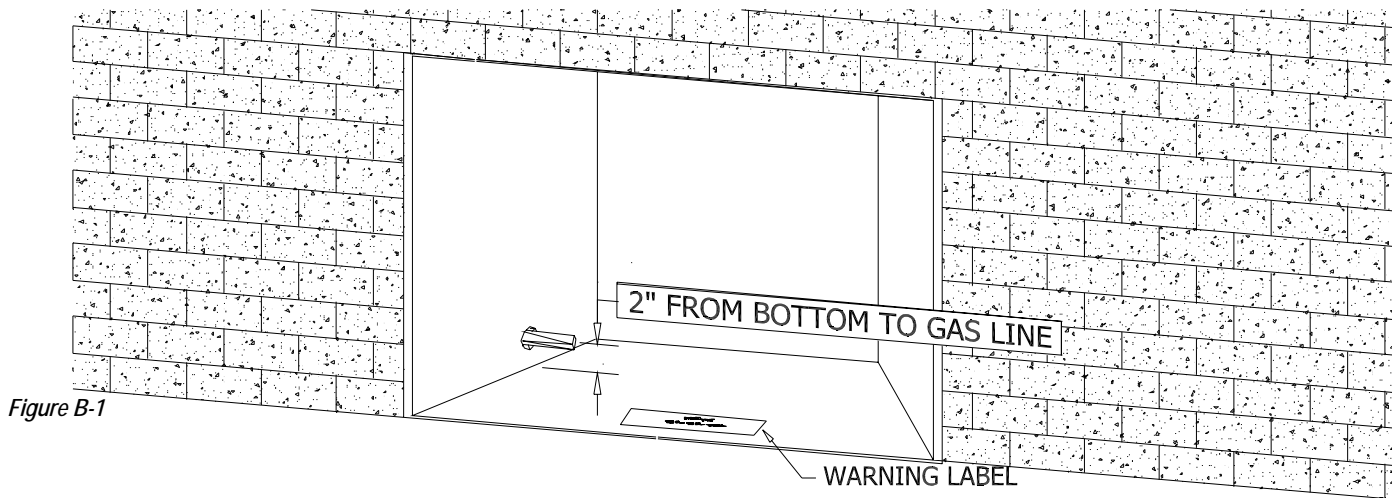

Figure B-1
1. Run the gas line into the fireplace, preferably through the side or back, 2" from the bottom of the fireplace. See Figure B-1 on page #5.